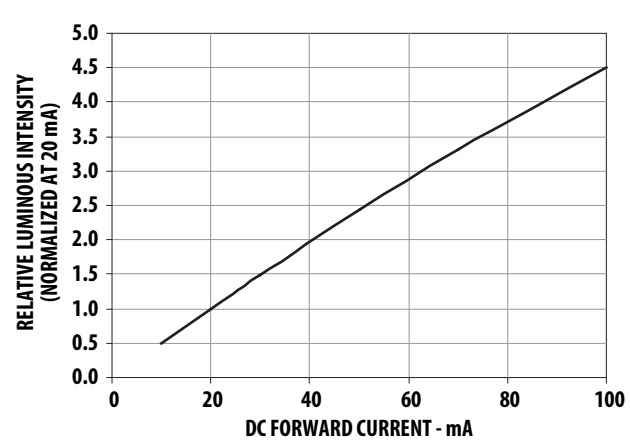

Figure 5: Maximum Forward Current vs. Ambient Temperature
a. Derate linearly as shown in Figure 5.